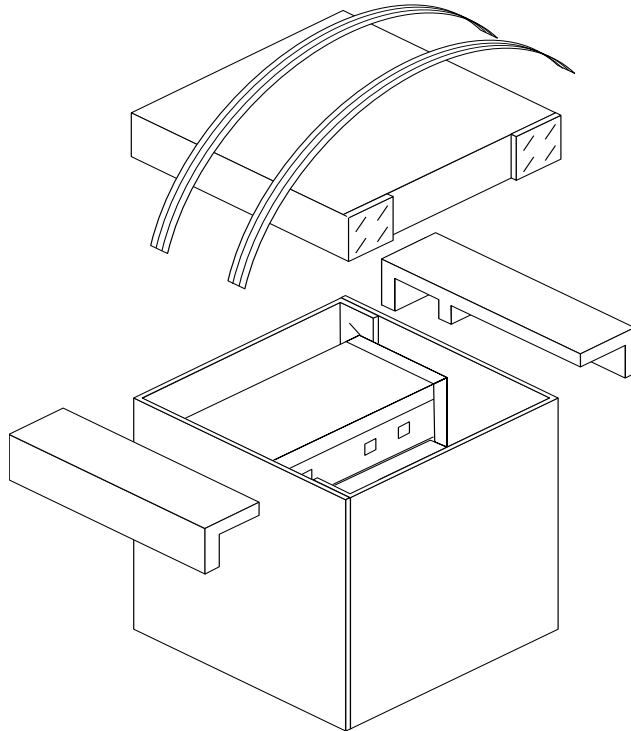

Figure 4-18 Opening the HCO Box
1. Open the cardboard box and remove foam blocks, as shown in Figure 4-18.